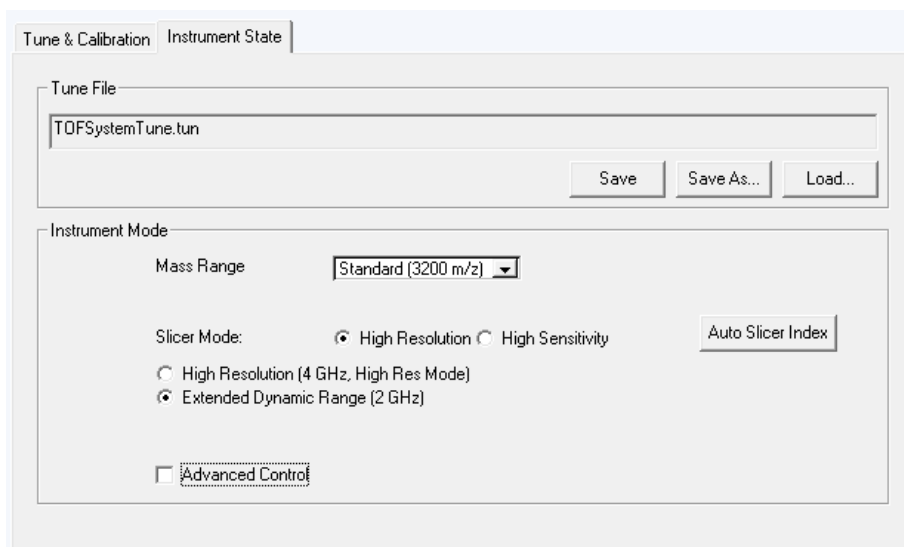
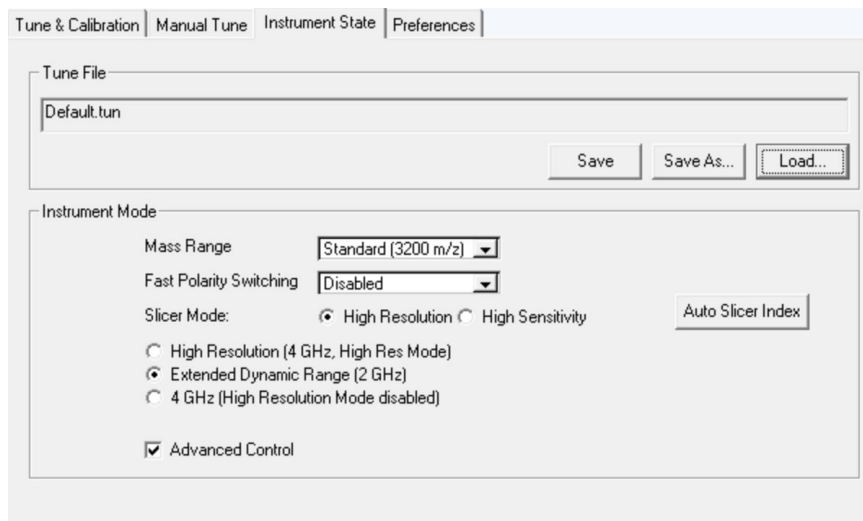

Figure 1. Tune window with Instrument State tab selected and Advanced Control clear
Figure 2. Instrument State tab with Advanced Control marked
- 3 Click the **Instrument State** tab if not selected (**Figure 1**).
- 1 To see the **Manual Tune** and **Preferences** tabs, mark the **Advanced Control** check box in the **Instrument State** tab (Figure 2).
- 1 Return to the **Instrument State** tab. (See Figure 1 on page 4 or Figure 2 on page 5).